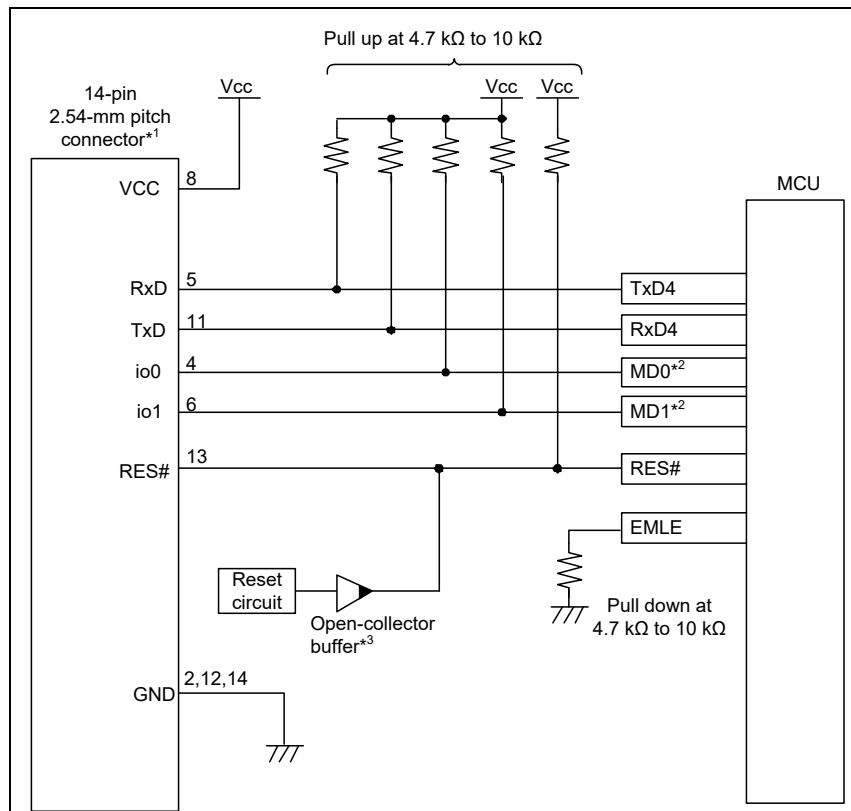
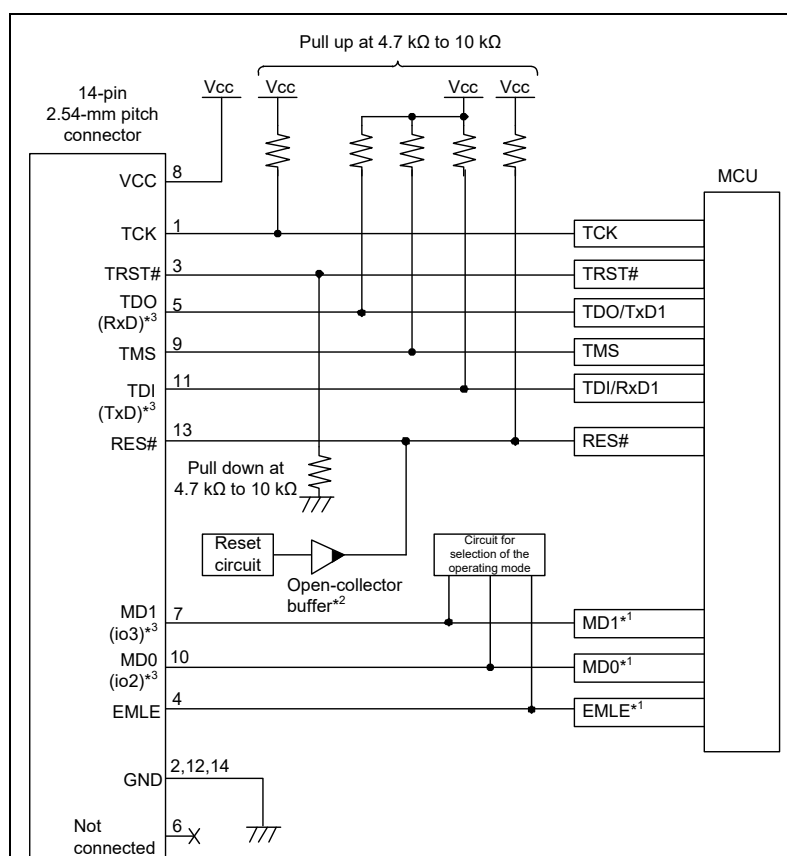

Figure 2.8 Example of Connection between the 14-Pin Connector and MCUs of the RX610 Group when Programming Software is Used (for Flash Programming)
Figure 2.9 Example of Connection between the 14-Pin Connector and MCUs of the RX621, RX62N, RX62T, and RX62G Groups in JTAG Interface Connection (for Debugging)
Figure 2.8 shows a recommended circuit for connection between the 14-pin connector and MCUs of the RX610 group when programming software is used.
Figure 2.9 shows a recommended circuit for connection between the 14-pin connector and MCUs of the RX621, RX62N, RX62T, and RX62G groups in JTAG interface connection.
3. When using programming software to program flash memory, connect the emulator connector and target MCU with reference to Figure 2.8 for an MCU of the RX610, and Figure 2.9 and Figure 2.10 for an MCU of the RX621, RX62N, RX62T, or RX62G. In debugging, refer to Figure 2.15 for the connector numbers for emulator connection.